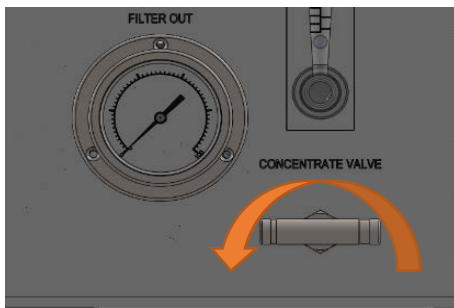

Figure 1
2. Fully open the concentrate valve by turning counter clockwise (Figure 1).